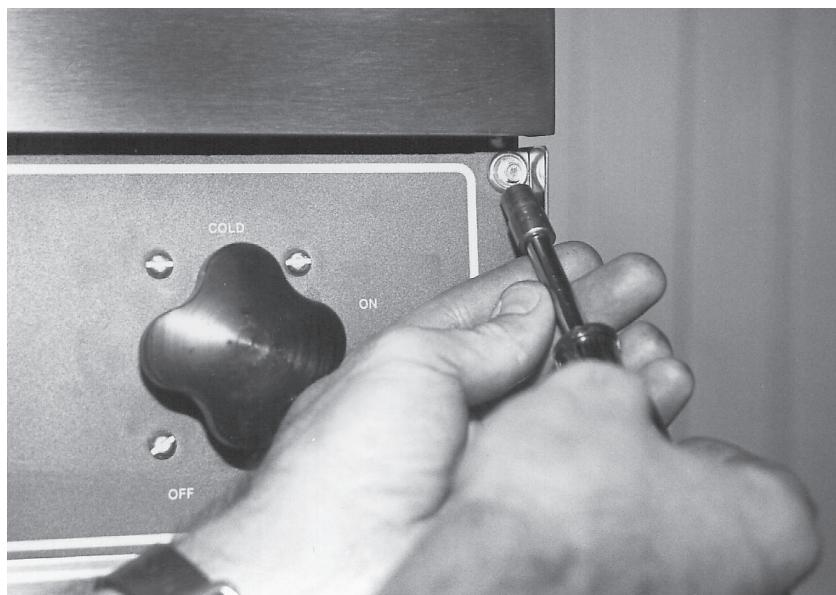

Fig. 9
1. With a  $\frac{1}{4}$ " socket, remove (2) screws from the upper left and right hand corners of the panel. (Fig. 9)